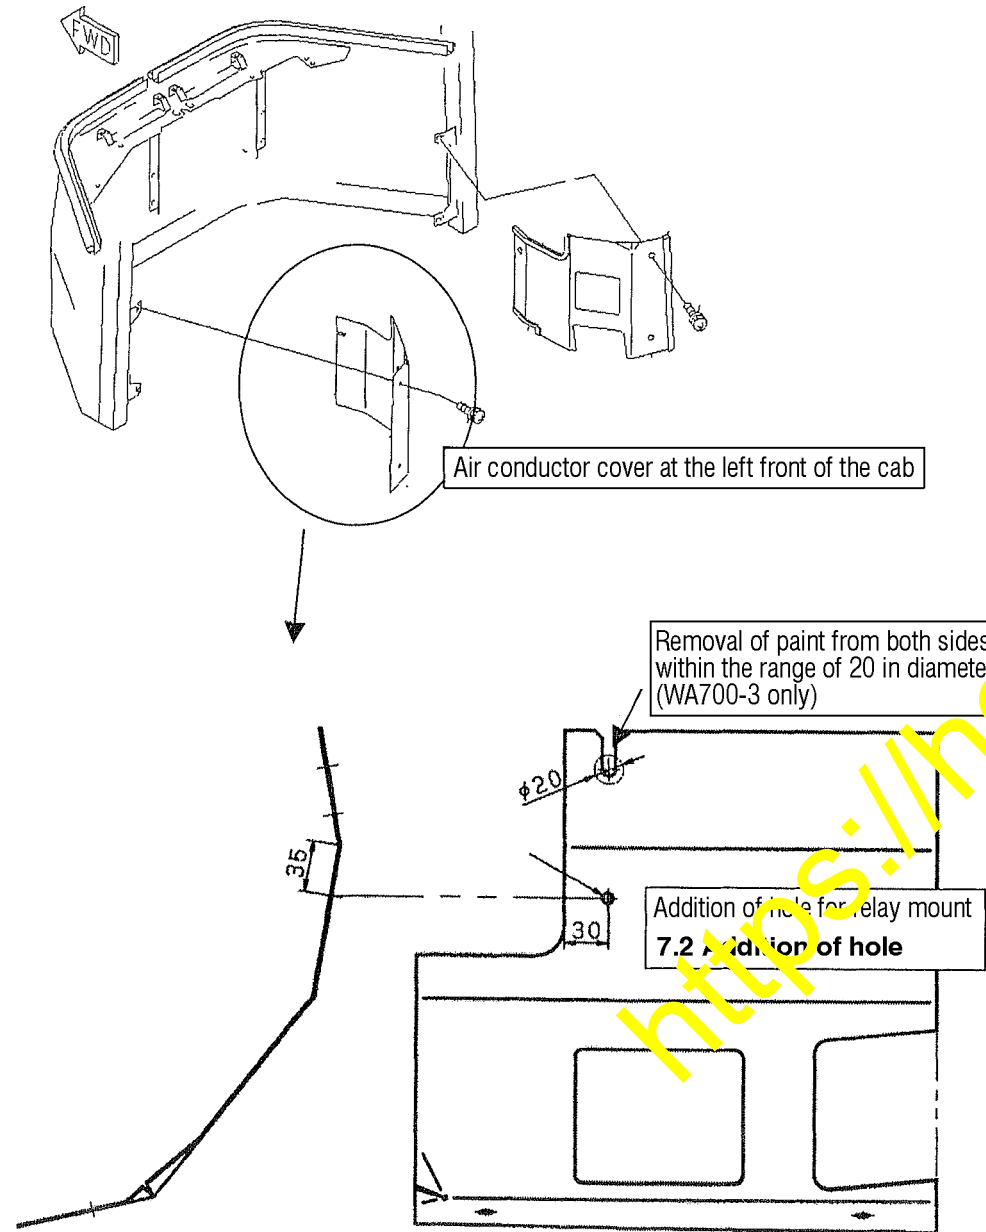

Fig. 9
② Work procedure
Step 1) Conduct additional work to make the head lamp relay mounting hole (For details, see Fig. 9.)
Step 2) Remove paint from the installed position of the grounding terminal and apply rust preventing oil (For details, see Fig. 9.)